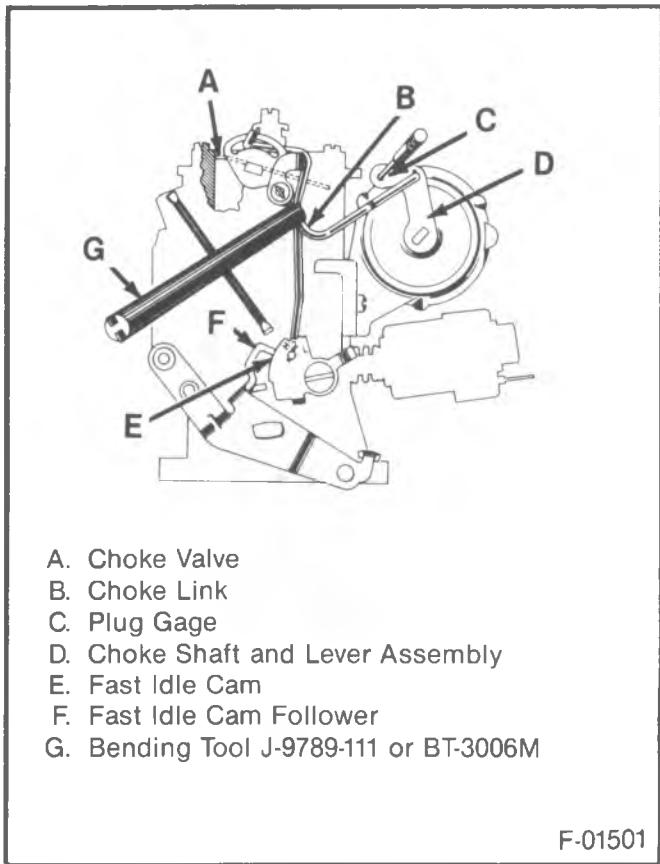

Figure 39 - Choke Stat Lever Adjustment
-  **Adjust** (Figure 39)
- If gage does not pass freely through both holes, bend choke link at point shown in Figure 39 to align the holes.